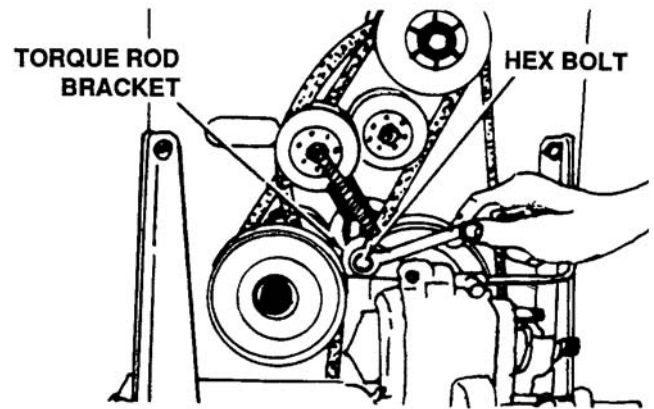

Figure 4-20. Location of Hex Bolt
6. Remove the hex bolt which holds the torque rod bracket to the torque rod and remove bracket. See Figure 4-20.